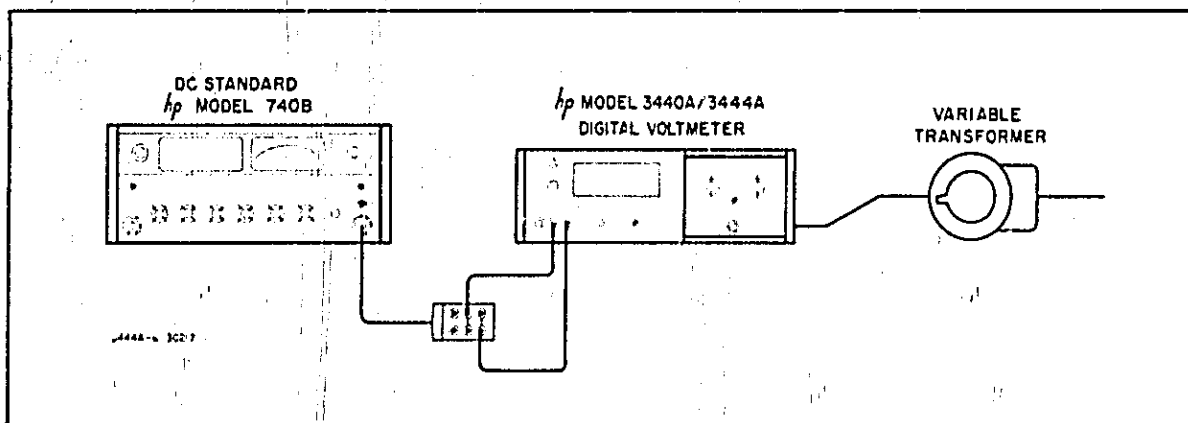

Figure 5-1. Voltmeter Accuracy Check
- a. Connect Model 3440A/3444A, dc standard, and variable transformer as shown in Figure 5-1.